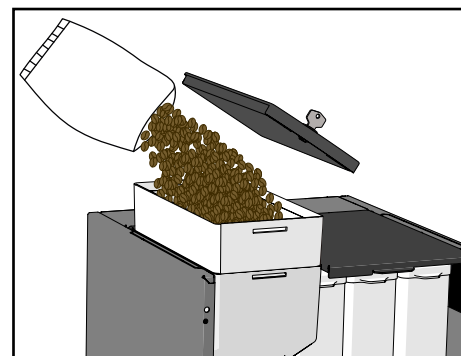

Figure 7.
2. Fill the bean canister with coffee beans (see Figure 7).